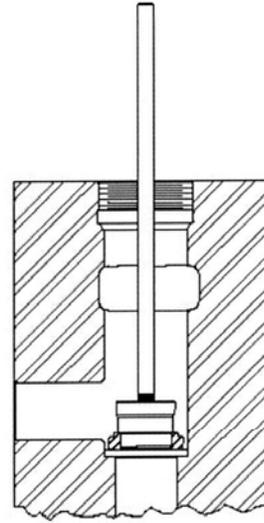

Figure 12
5. Insert seat driver in suction seat, and using a hammer, tap the seat into seal until it is solid with bottom of bore. (Check seat, be certain top side is up). (See Figure 12, page 43).